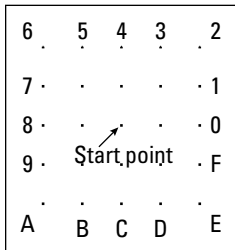

**Figure 32-2:** The direction codes.
- ♦ The third character is a direction code. Figure 32-2 shows how this code works. Use the code that represents the desired direction of the line from the start point.